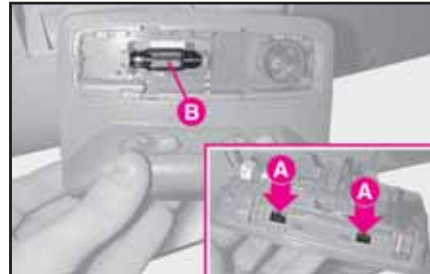

fig. 28
- remove the tube bulb (**B**) by removing the light glass from its housing (**A-fig. 28**) and by pushing fixing clamps;